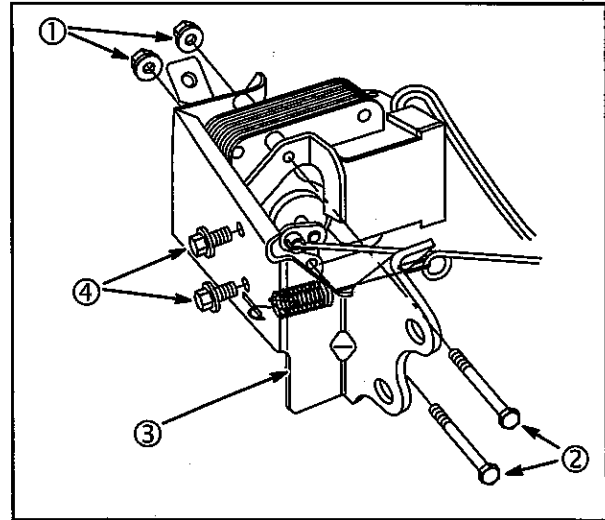

Fig. 57
1. Assemble actuator to governor control bracket (3), Fig. 57. Torque screws (4) and nuts (1) to **30 in. lbs. (3 Nm)**.